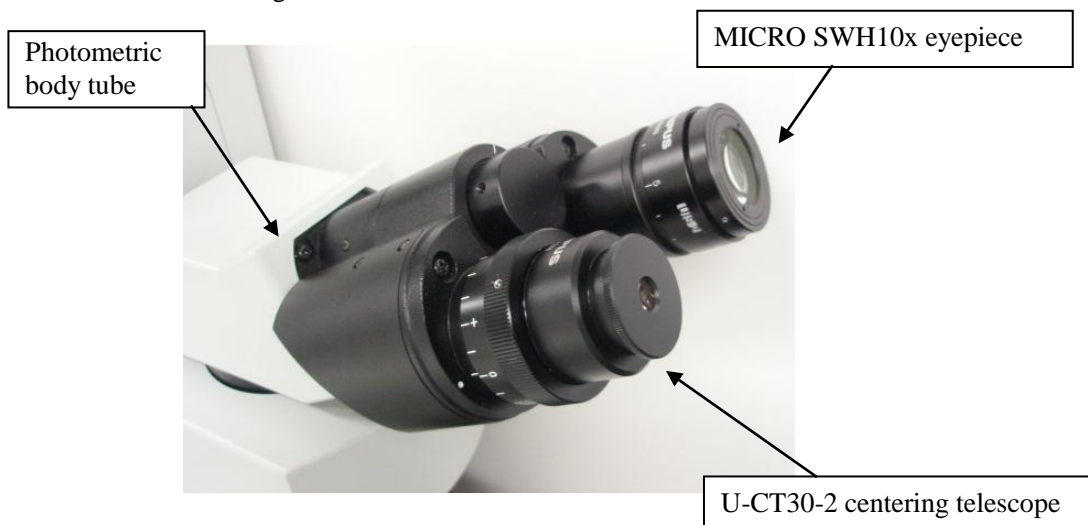

Figure 2. Installation diagram
- (2) Insert the U-CT30-2 Centering Telescope into the left side of the photometric body tube, as shown in Figure 2.